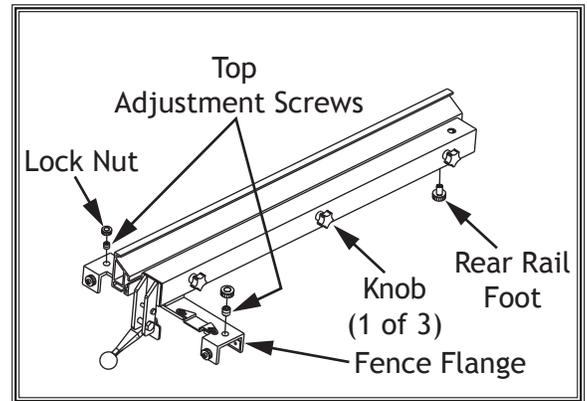

Figure 119. Fence components used to adjust fence height and squareness to table.
5. Install fence onto table, then loosen fence knobs (see **Figure 119**), pull fence up from center, and tighten each knob.
6. Loosen top lock nuts on fence flange and lock nut on rear rail foot, shown in **Figure 119**.
9. Loosen top lock nuts and adjust top screws (see **Figure 119**) on **Page 74** to make fence face 90° to table, then tighten lock nuts.